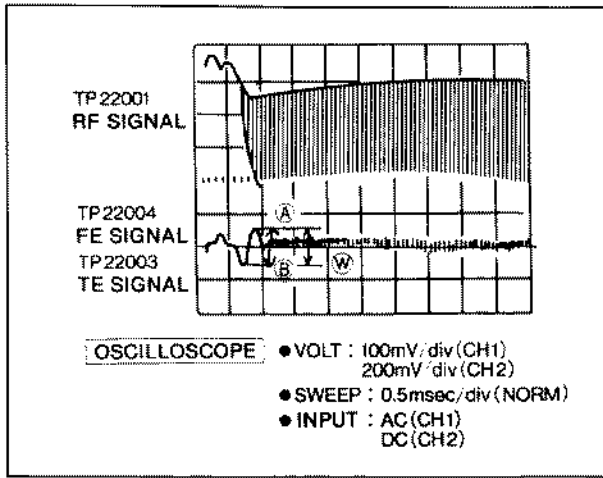

Fig. E21
3. Adjust VR22062 (T-CD OS) on the Servo C.B.A. so that the RF envelope (CH1) becomes as flat as possible and the waveform (A) and (B) is at the same level or waveform (W) is minimized as shown in Fig. E21.
3. Adjust VR22063 (F-V OS) on the Servo C.B.A. so that the RF envelope (CH1) becomes as flat as possible and the waveform (A) and (B) is at the same level or waveform (W) is at a minimum as shown in Fig. E21.
3. Adjust VR22061 (T-LDN OS) on the Servo C.B.A. so that the RF envelope (CH1) becomes as flat as possible and the waveform (A) and (B) is at the same level or waveform (W) is at a minimum as shown in Fig. E21.
3. Adjust VR22051 (F-R OS) on the Servo C.B.A. so that the RF envelope (CH1) becomes as flat as possible and the waveform (A) and (B) is at the same level or waveform (W) is minimized as shown in Fig. E21.